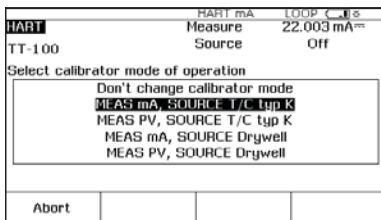

Figure 12.
2. Press the **HART** key again and you are prompted to select the 754 configuration (Figure 12). Selecting **MEAS mA, SOURCE T/C typ K** configures the calibrator to measure the analog mA output of the transmitter and source the correct temperature stimulus at the 3144 input. (Selecting **MEAS PV, SOURCE T/C typ K** will configure the 754 to evaluate the digital PV output from the transmitter.) Press **ENTER** to select.